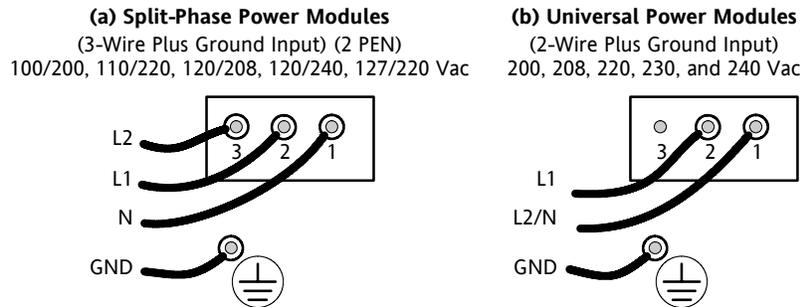

Figure 18. UPS Input Wiring
- Wire the UPS for the proper input voltage as shown in Figure 18.
Confirm that the UPS is wired for the proper input voltage as shown in Figure 18, and that the proper power modules (either split-phase or universal) are installed to produce the desired output voltage. Do not mix the two types of power modules in the same UPS cabinet.